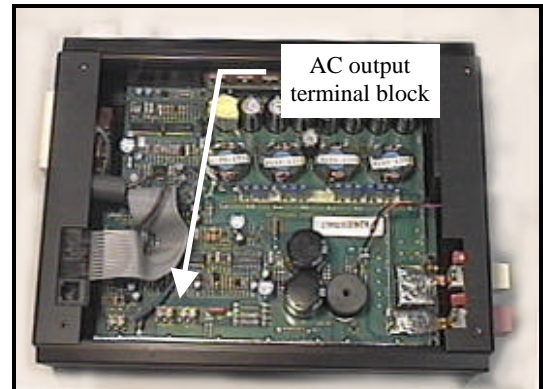

Figure 9. PROwatt 800 AC output connections
**WARNING!** Permanent AC connections to the terminal blocks shown in figures 9 & 9A **are not** GFCI protected.
- b) Remove the bottom plate from the PROwatt 800 (four screws). This will expose the AC terminal blocks (see Figure 9).